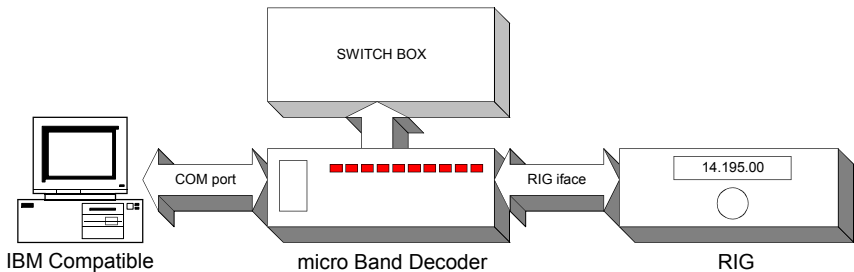

Figure 1
Still, a PC can be connected to the decoder. This connection is used to reconfigure the decoder to change its behavior or to change the type of connected RIG, or to have the RIG connected to PC for contesting or automatism of hamshack. The basic interconnect is on Figure 1.
Figure 1 illustrates the basic function of decoder. After powering on, the decoder attempts to communicate with the RIG. If it fails, it switches to the last used band. In case of success, the decoder traces all changes in the RIGs frequency and activates its outputs accordingly. The decoder operates in this mode until it receives any data from the PC.
4. plug on the RELAY BOARD onto the header in the position shown on the fig1.